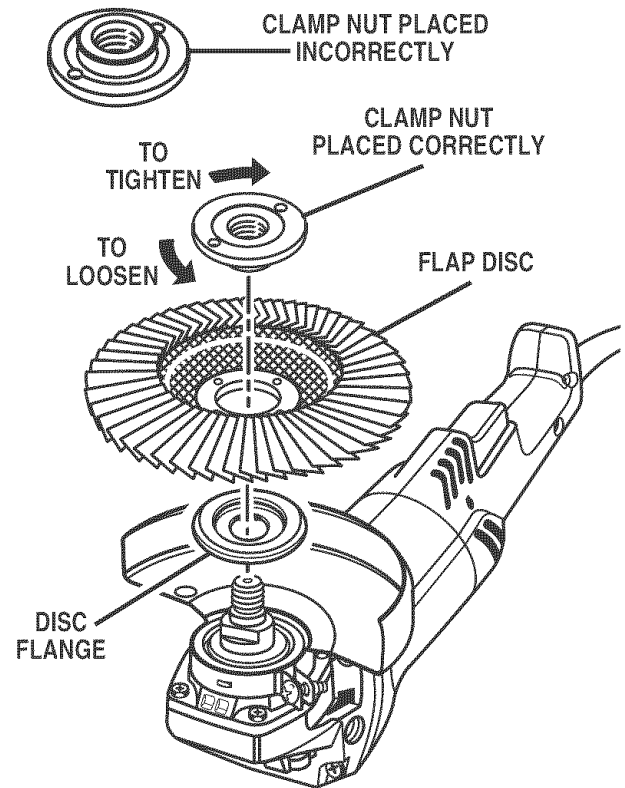

Fig. 3b
- To install optional flap disc (sold separately): Place flap disc over the spindle. Thread the clamp nut on the spindle with the flat side of nut facing up. Fit raised, small diameter portion of the clamp nut into the hole in the wheel and finger tighten. See Figure 3b.